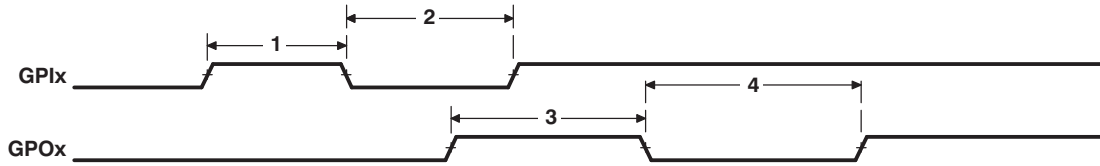

Figure 5-12. GPIO Port Timing
**Table 5-10. Timing Requirements for GPIO Inputs (see Figure 5-12)**
**Table 5-11. Switching Characteristics Over Recommended Operating Conditions for GPIO Outputs (see Figure 5-12)**